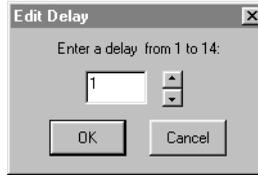

Figure 5.1. Use this dialog box to change the propagation delay of one or more selected devices.
- 2 Choose **Edit > Set Prop Delays** to display the dialog box shown in Figure 5.1.